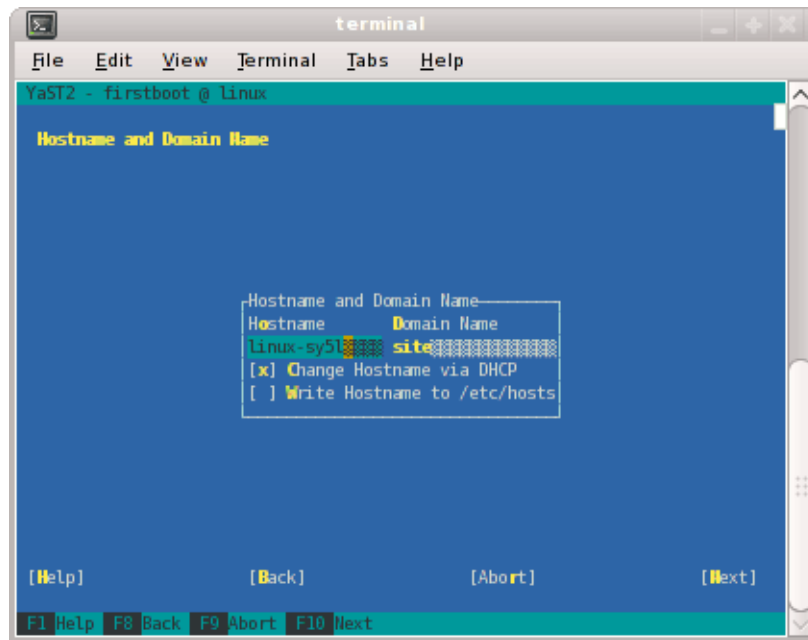

Figure 2-10 Hostname and Domain Name Screen
3. From the **Hostname and Domain Name** screen, as shown in Figure 2-10 on page 47, enter the hostname and domain name of your system in the appropriate fields. Make sure that **Change Hostname via DHCP** is **not** selected (no **x** should appear in the box). Click the **Next** button to continue.